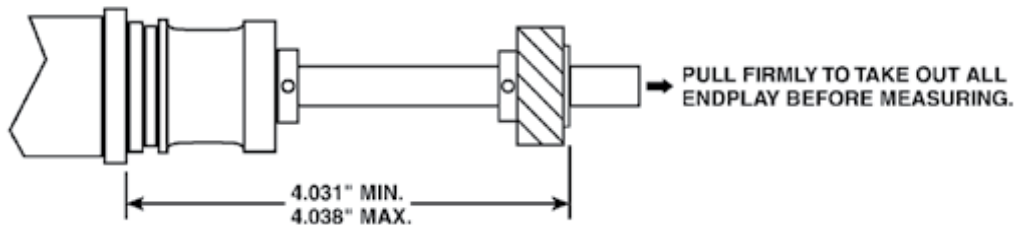

Fig. 1
- STEP 6:** Pull distributor shaft out of distributor housing to eliminate endplay (see Fig. 1).
- STEP 7:** Check location of distributor gear on distributor shaft (see Fig. 1). If it is not in the correct location, use a press to move the gear to the correct location.
**NOTE:** It is important that the dimensions called out in Figure 1 are maintained while drilling.
**STEP 9:** Insert roll pin and check dimensions (see Fig. 1).